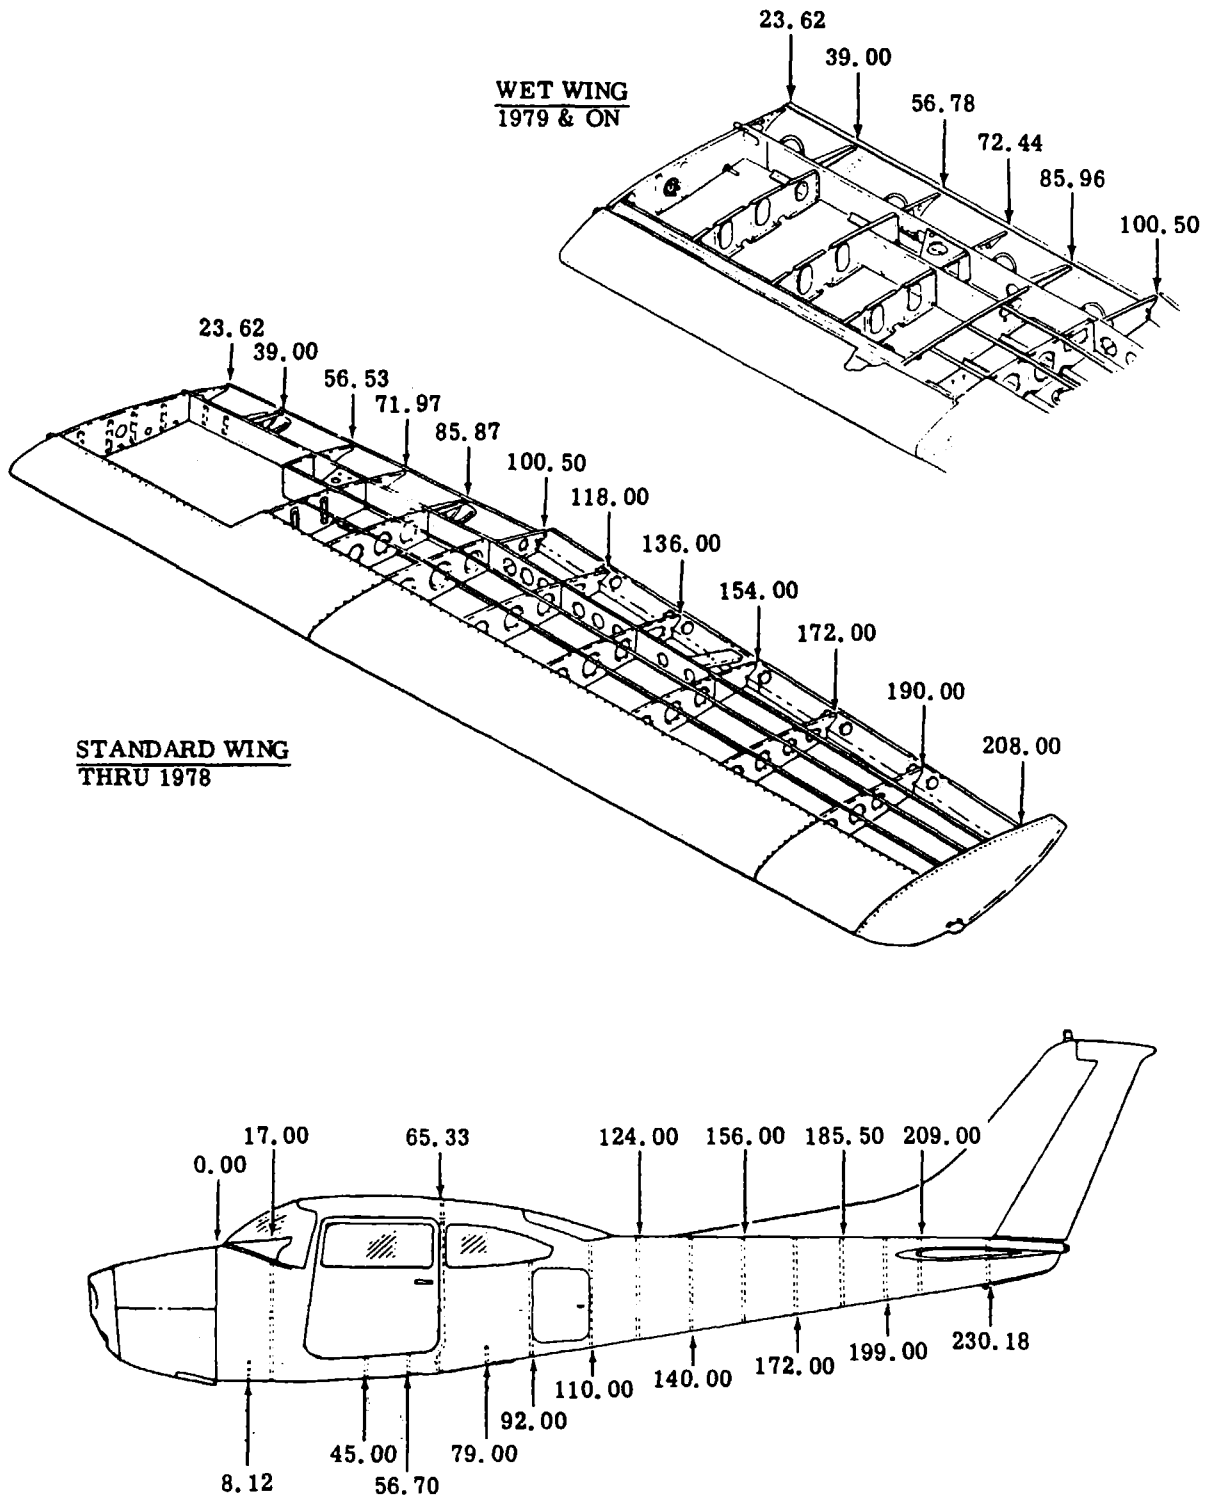

Figure 1-2. Reference Stations
1-5. STATIONS. A station diagram is shown in figure 1-2 to assist in locating equipment where a written description is inadequate or impractical.
2. When using a torque wrench adapter which changes distance from torque wrench drive to adapter drive, the indicated reading must be adjusted for desired torque reading. (See Figure 1-2.)